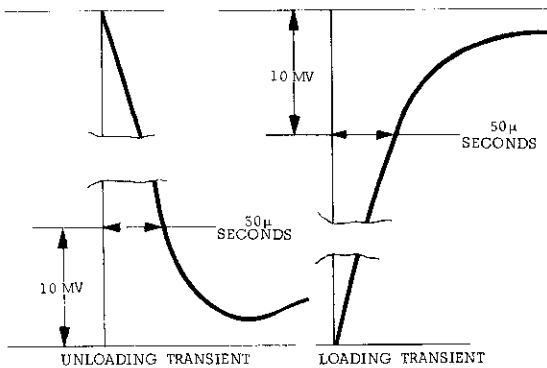

Figure 5-9. Transient Response, Waveforms
- f. Adjust 25K potentiometer until a stable display is obtained on oscilloscope. Waveform should be within the tolerances shown in Figure 5-9 (output should return to within 10mV of original value in less than 50 microseconds).